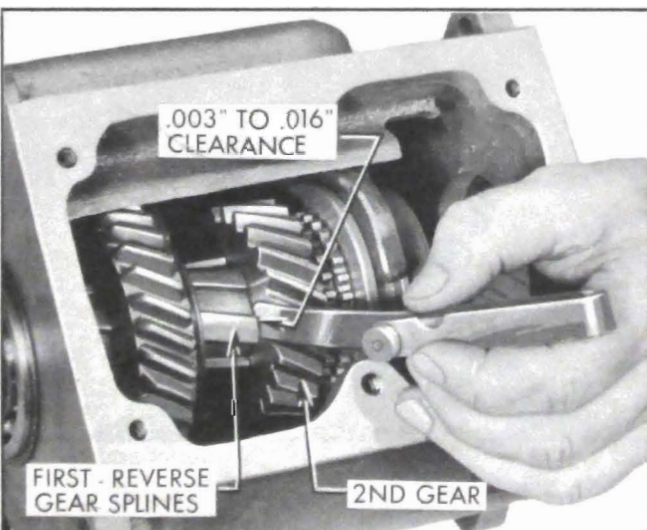

Figure 4-28—Checking End Clearance of Second Speed Gear
8. With synchronizer hub and second gear pressed forward against snap ring, there should be from $.003$ " to $.016$ " end clearance between second speed gear and front facing of first-reverse gear splines. This is a selective fit of main shaft, second speed gear, and synchronizer hub. Replace worn parts if clearance is found to be excessive. See Figure 4-28.